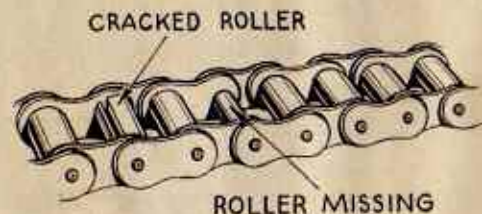

FIG. 20.
**Freewheel and Chains.**—Try the freewheel by spinning the pedals backwards (except, of course, on machines fitted with pedal-operated rear brakes), and examine both driving and pedalling chains for cracked or missing rollers (see Fig. 20).